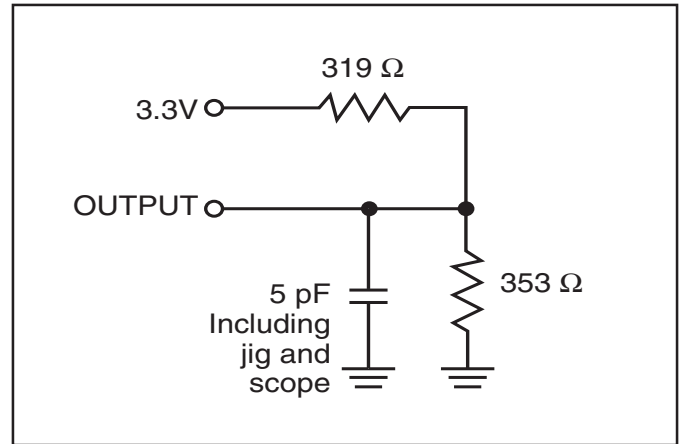

Figure 2
2. Tested with the load in Figure 2. Transition is measured  $\pm 200$  mV from steady-state voltage. Not 100% tested.
3. Tested with the load in Figure 2. Transition is measured  $\pm 500$  mV from steady-state voltage. Not 100% tested.